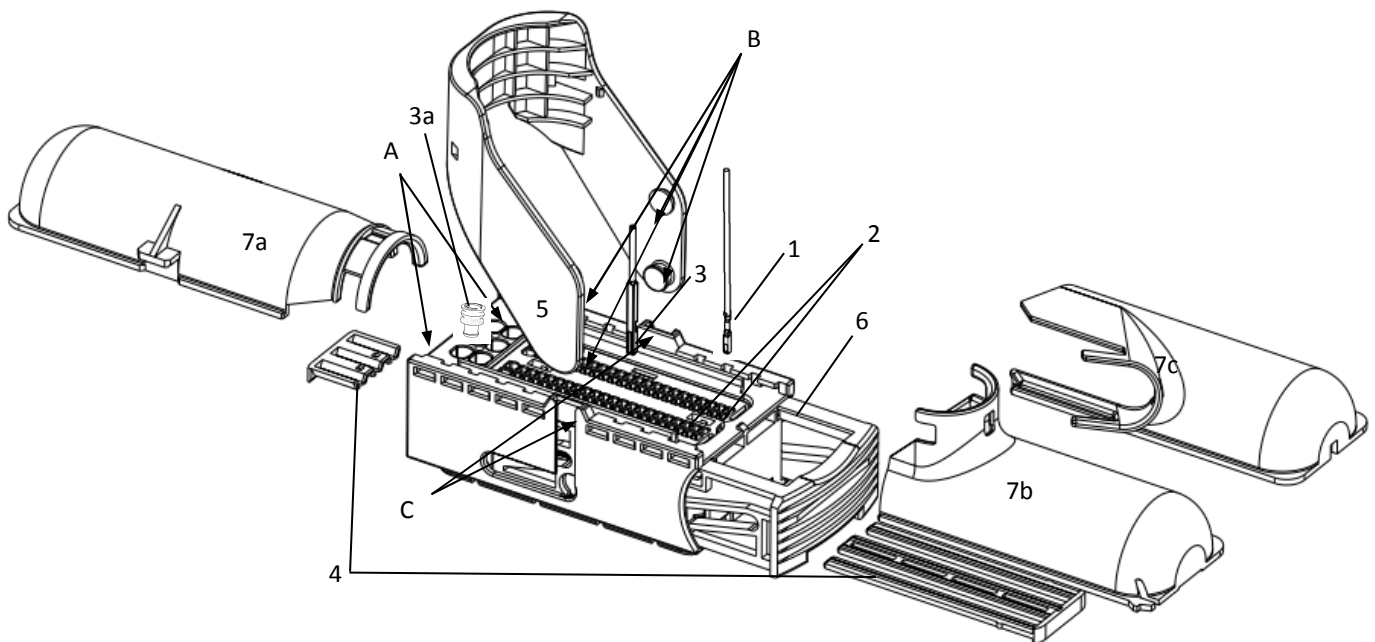

Figure 1
The contacts (1), with wires connected, are pushed through the seal into the chambers until they lock into position (see Figure 1). The geometry of the seal holders (2) ensures correct orientation of the contacts during insertion. The contacts must be pushed vertically into the chambers, canting of the contacts heightens the loading force and also can damage parts (for example the contacts). For warranty of water proof, the non-loaded cavities must be occupied with sealing plugs (3 and 3a).
After the complete loading, the secondary locks (4) must be displaced and locked. It will be possible without larger energy involved (<10N). If the secondary locks are clamped, the position of the contacts must be checked and corrected (contact not rested). For mounting the optional lever (5), the slide (6) must be extracted into pre-locked-position (as shown in figure 1) and then the lever must be pushed from top into the duct (C). It must be observed that on both sides the bolt (B) is in the duct (C). With pressure to the lower bolt the lever must be rested with the slide. The cover cap (7) is then suspended and rested. Assure that the cable exit shows in the right direction and the cover is in both ducts (A). The cables must be secured with a cable tie. Ensure that the lock of the cable tie does not hinder the movement of the slide and the lever (7a).